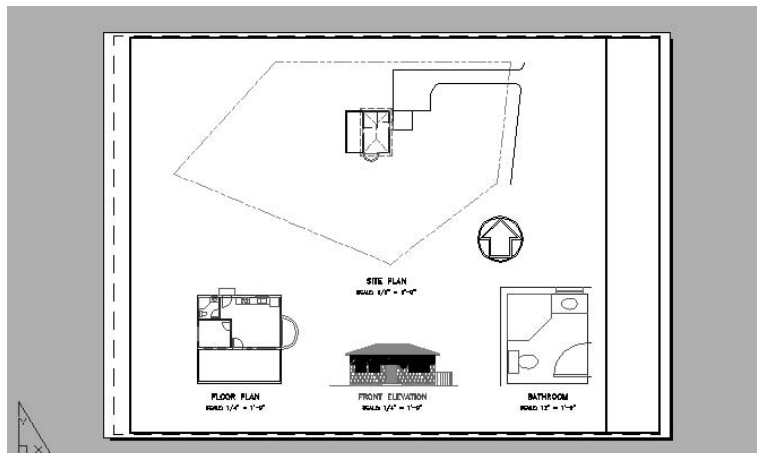

FIGURE BC.7: The Site14a drawing
1. Open the Site14a drawing (see Figure BC.7). This is the drawing of the site plan with three auxiliary views of the externally referenced Cabin12a.dwg file. This Xreferenced file should be included in the bundle we are sending.